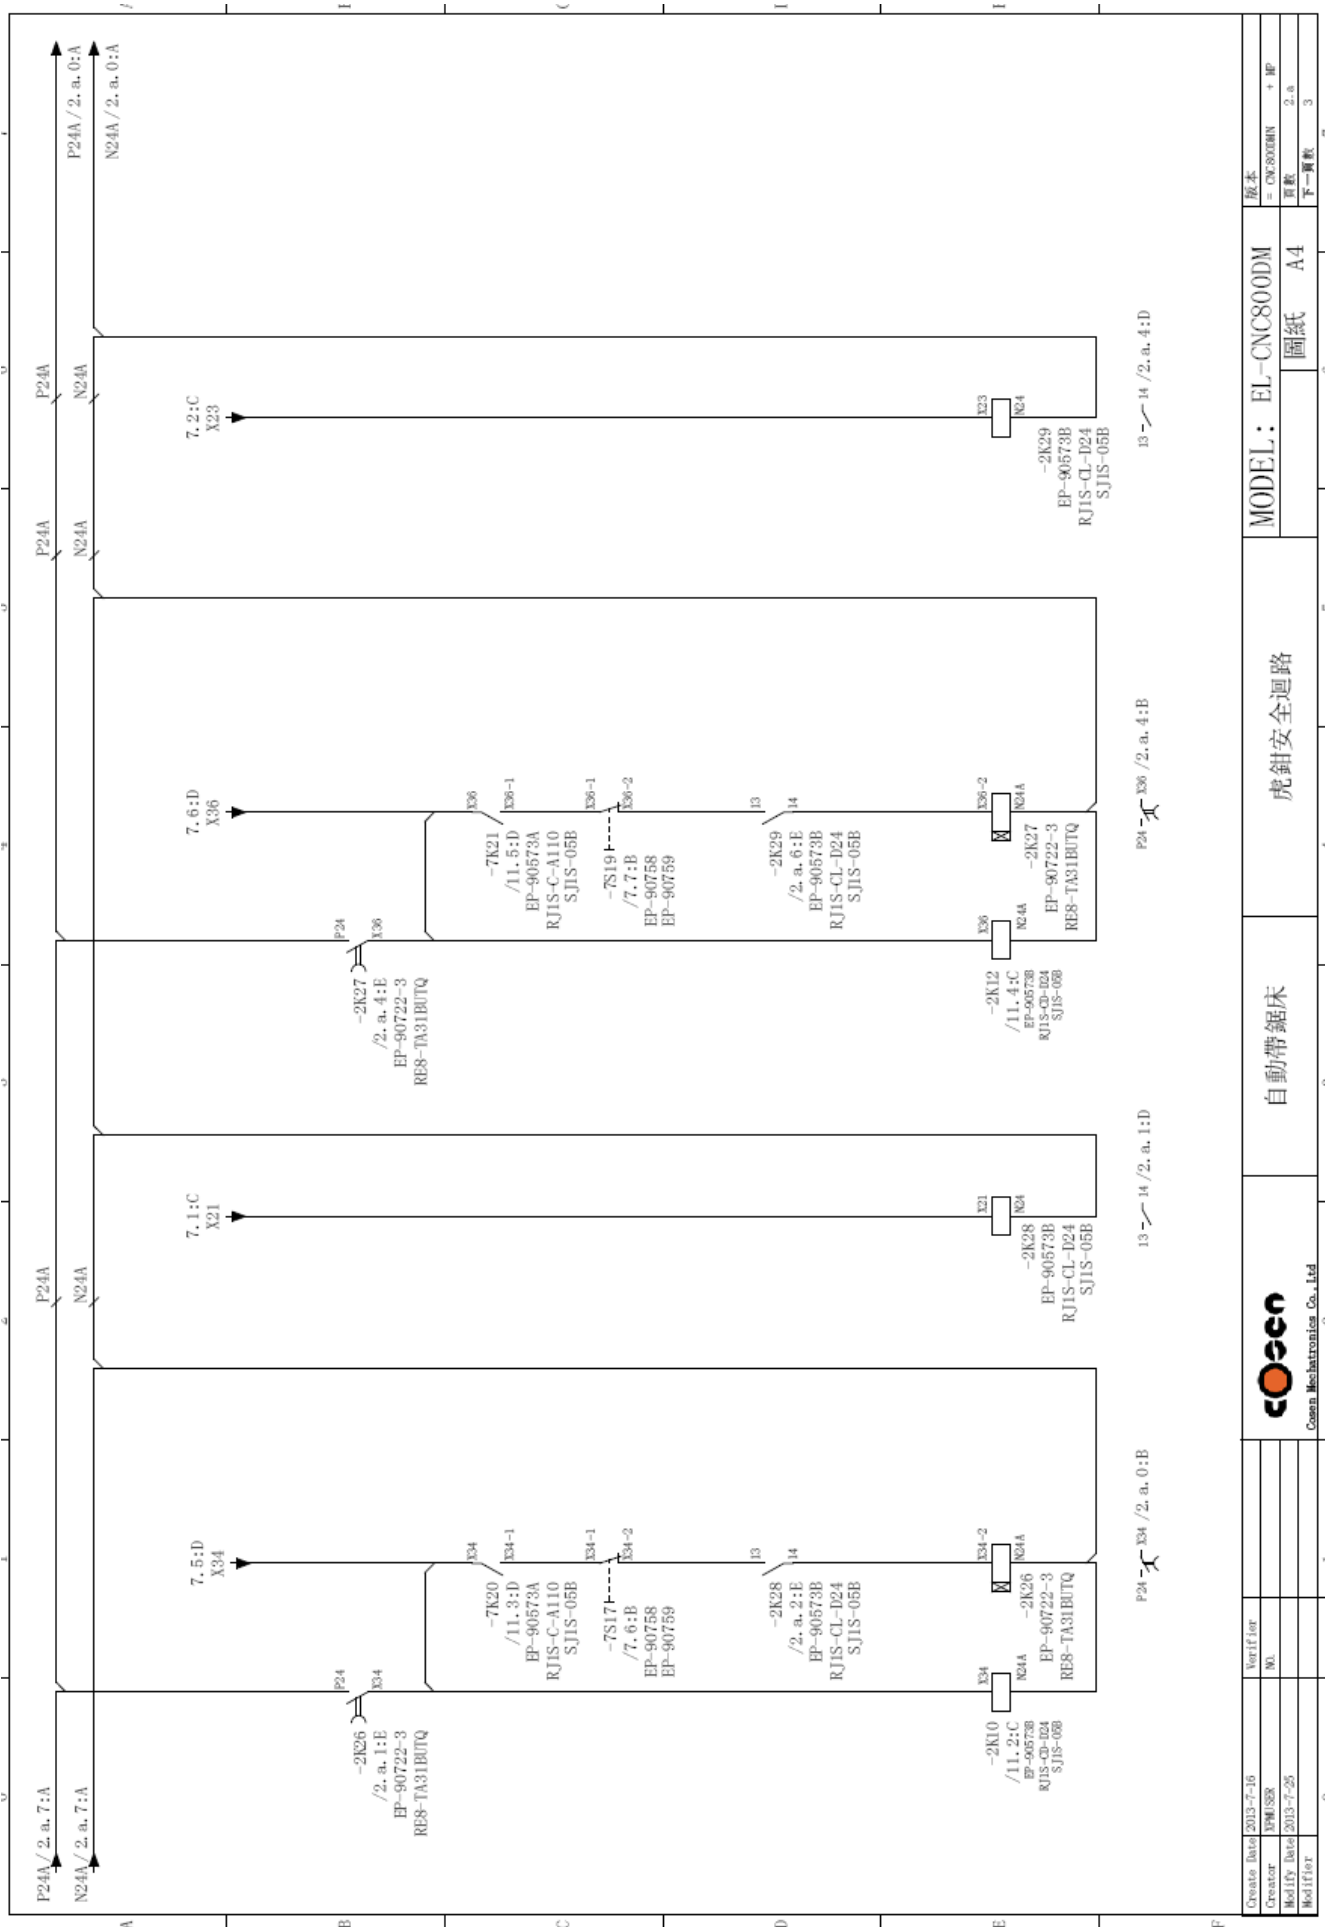

Fig. 5-3 Vise safety circuit diagram (CE)
- Fig. 5-3 Vise safety circuit diagram (CE)